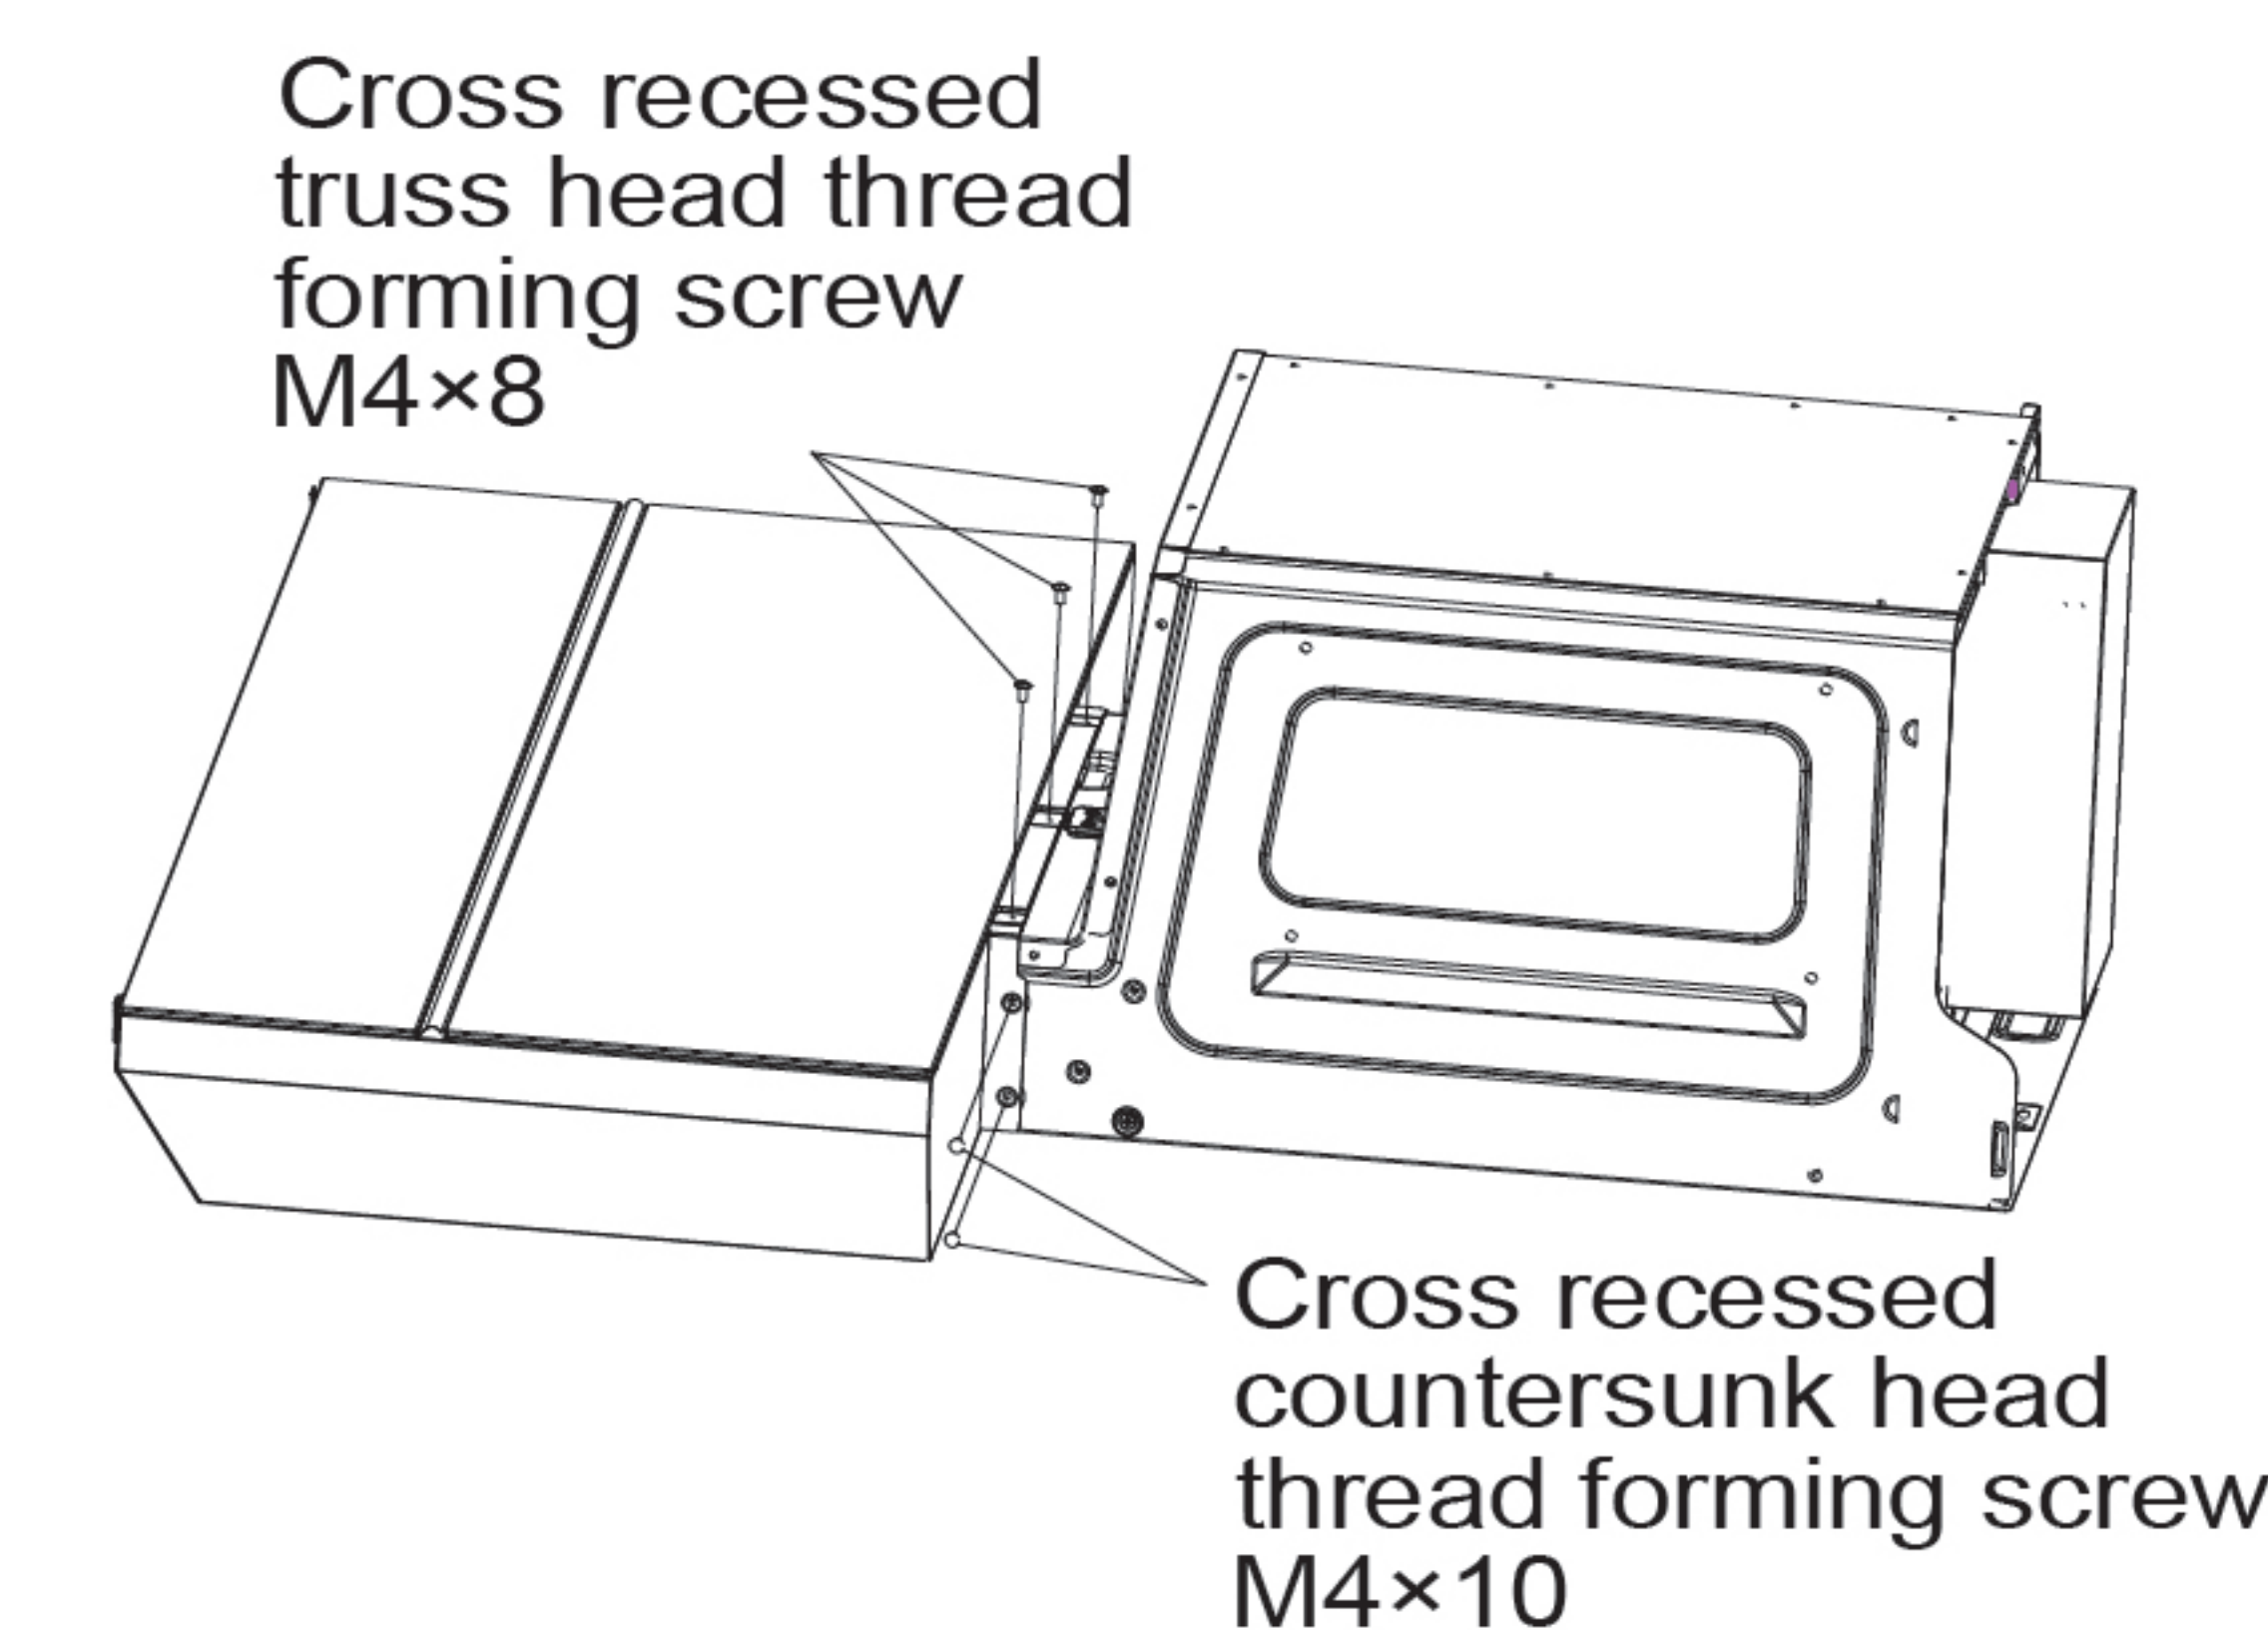
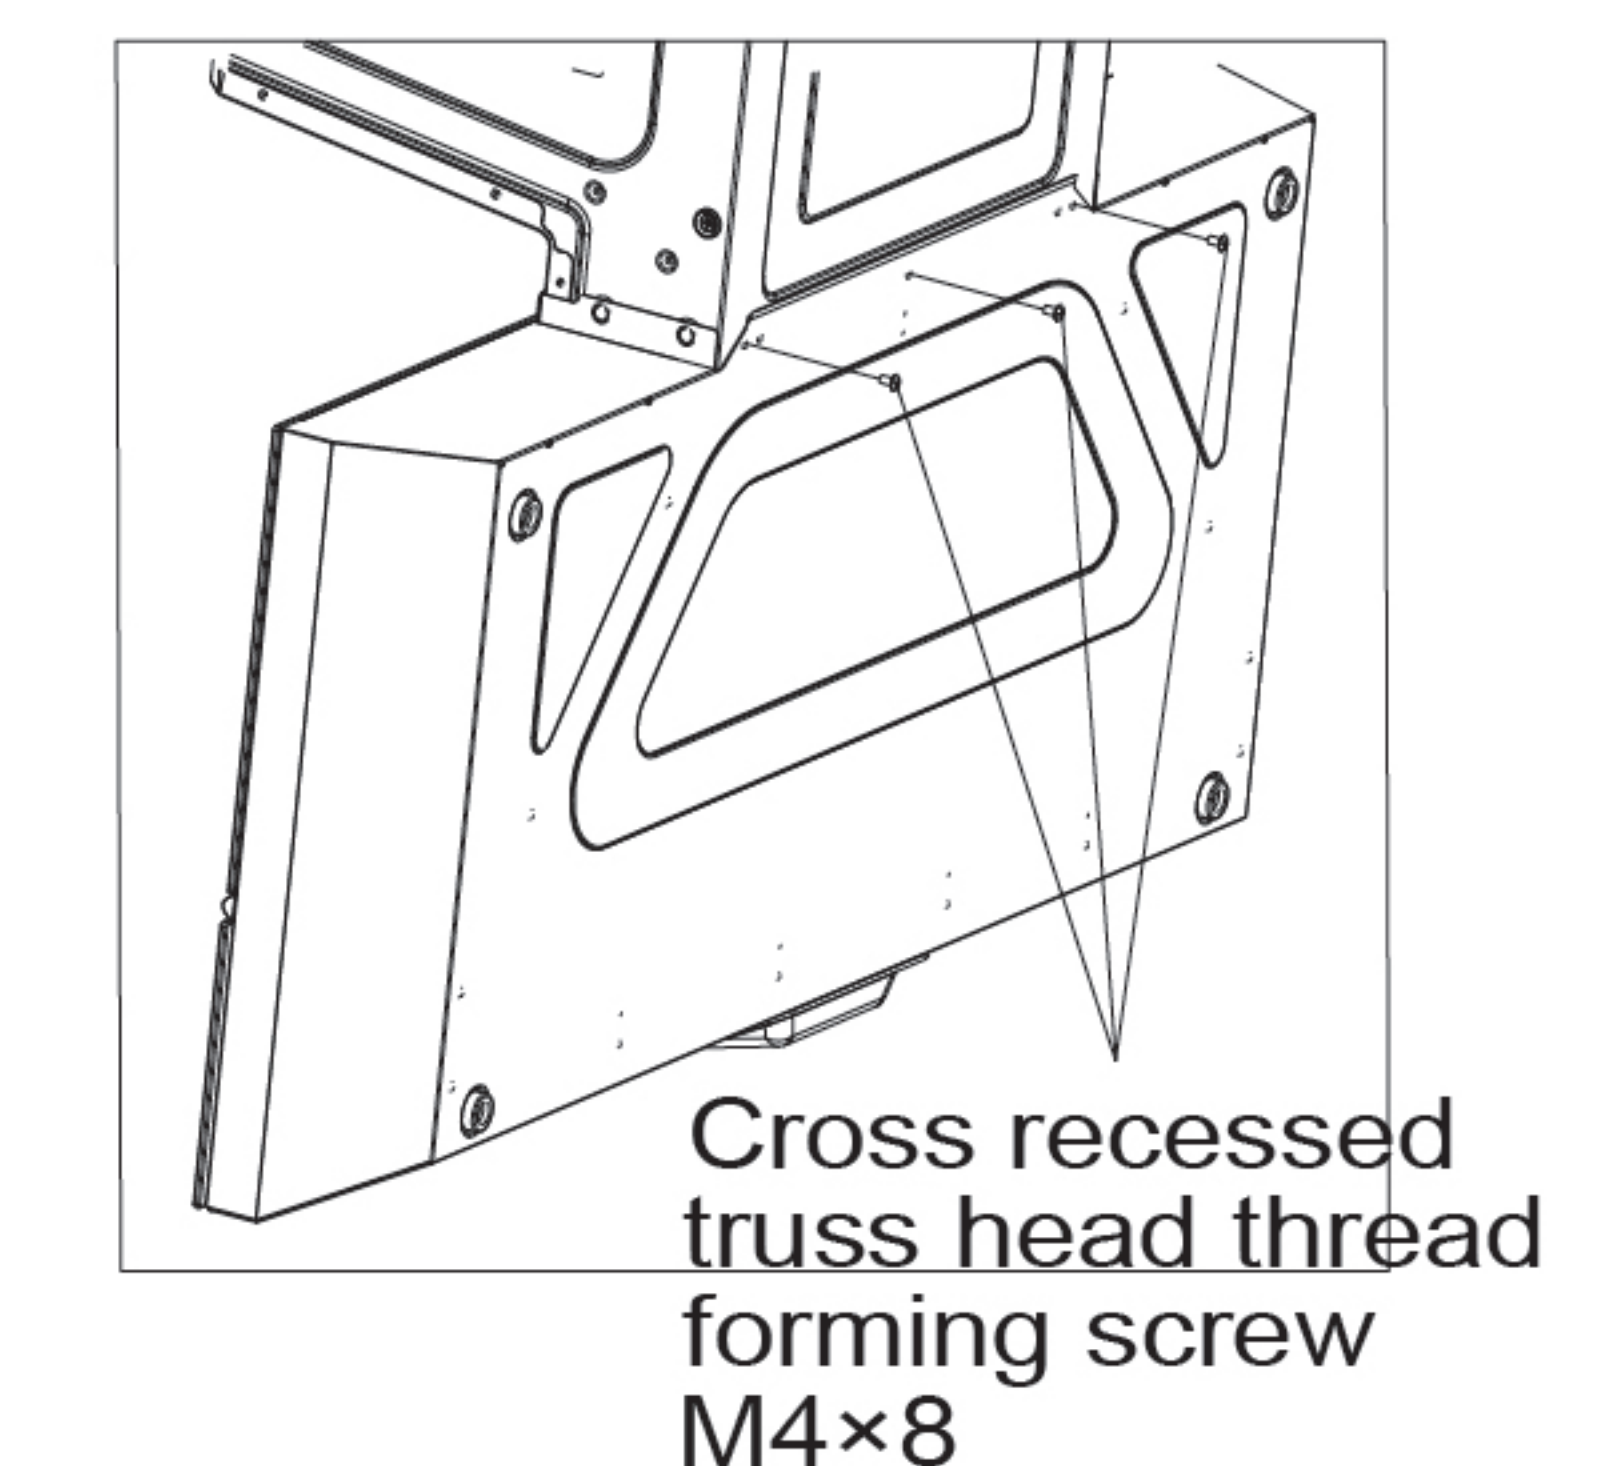

Fig.15
Fig.16
6. Connect the fan frame with the left and right sides of the chamber with 4 M4×10 countersunk head tapping screws; connect the fan frame with the front side of the chamber with 3 M4×8 truss head screws (as shown in Fig. 15); place the range hood vertically and connect the fan frame with the rear side of the chamber with 3 M4×8 truss head screws, and finish the assembling of the main body (as shown in Fig. 16).